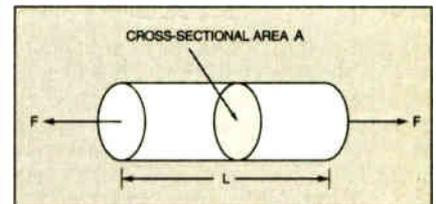

Fig. 4.13. Forces on a rod of metal.
If we consider a metal rod of length  $L$  metres (m) and cross-sectional area  $A$  square metres ( $m^2$ ) as shown in Fig. 4.13 and we apply a force  $F$  Newtons (N) in such a way as to pull the rod apart, we can define the tensile stress as
If we look at the constitution of a metal at the atomic level, it is a lattice of atoms held together in equilibrium and the spacing between atoms determines the physical size of the object. When we apply a force, the atoms will re-arrange themselves in order to keep equilibrium. The atomic spacing will change and so will the physical dimensions, i.e. the object will *deform*. This resulting deformation is called a *strain*. Panel 4.1 and its Fig. 4.13 give a detailed description of stress and strain.